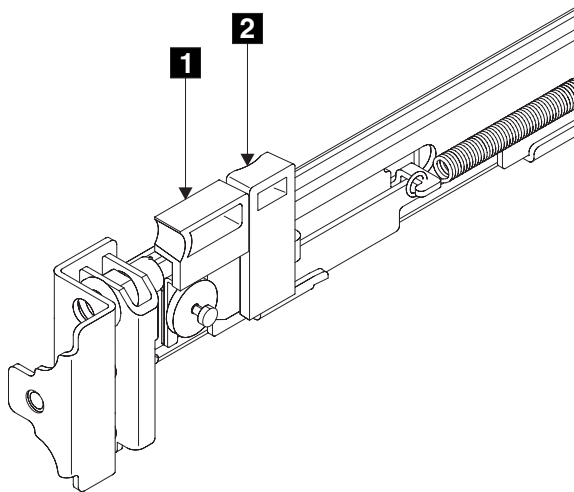

Figure 46. Retracting the latch lock carrier
2. Put your index finger against the side of the latch-lever, **1** in Figure 46, and put your thumb against the front of the latch-lock **2**.